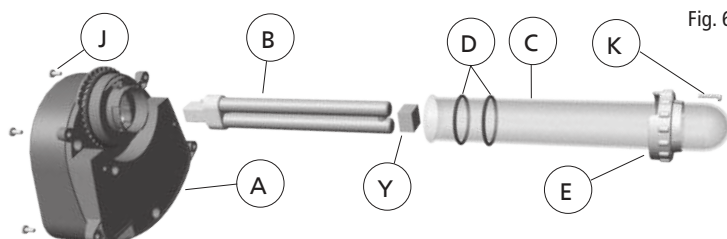

Fig. 6
4. Remove the UV-C head (A) (Fig. 6) from the filter by unscrewing the 4 screws (J)